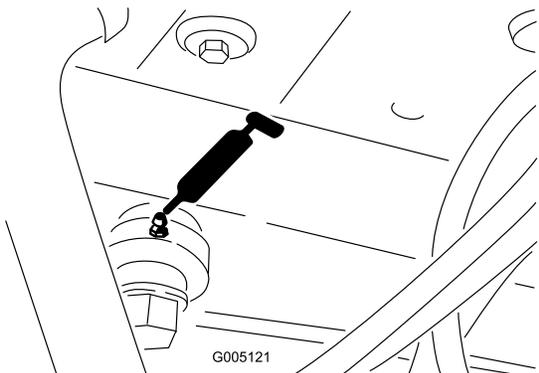

Figure 31
- Steering-cylinder end (Figure 31)